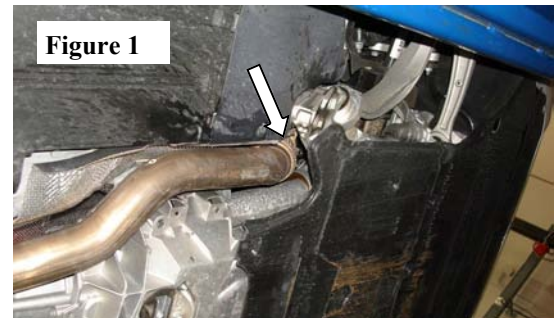

Figure 1
2. Loosen and remove front flange bolts. (See Fig.1)